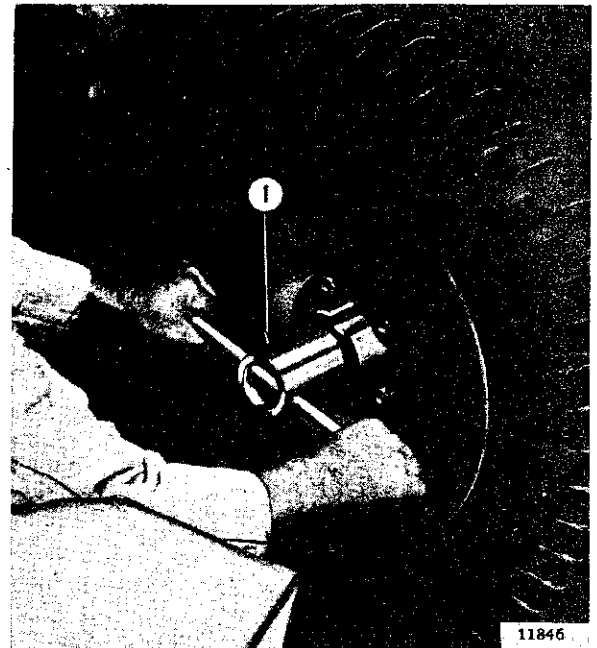

FIG. M-5—WHEEL BEARING NUT WRENCH
- e. Release the locking lip on the lockwasher and remove the outer nut, lockwasher, adjusting nut and bearing lockwasher. Use wrench W-144, Fig. M-5, for removal of the nut.